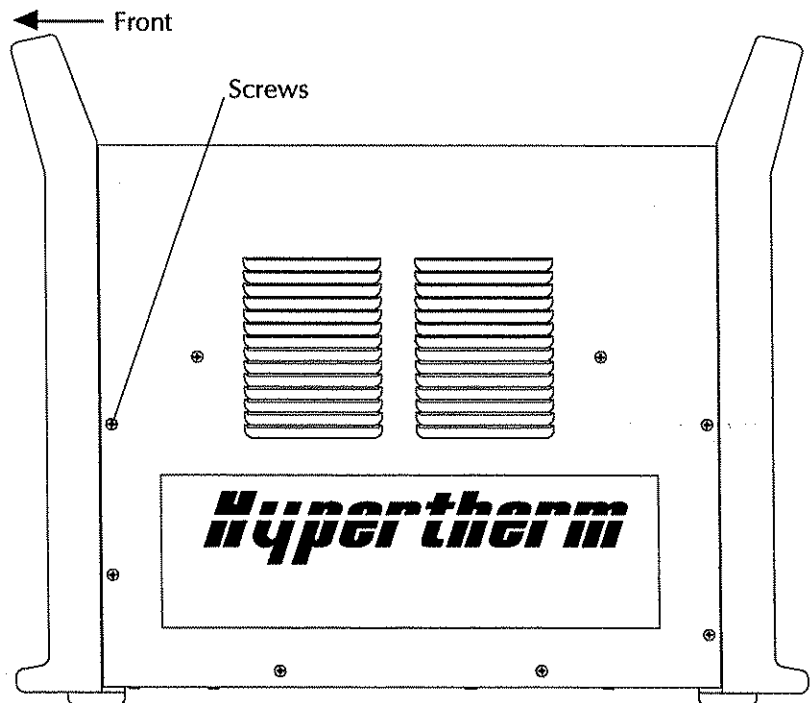

Figure 1 Cover Removal
2. Remove the screws (075467) that secure the cover to the chassis - Fig. 1.